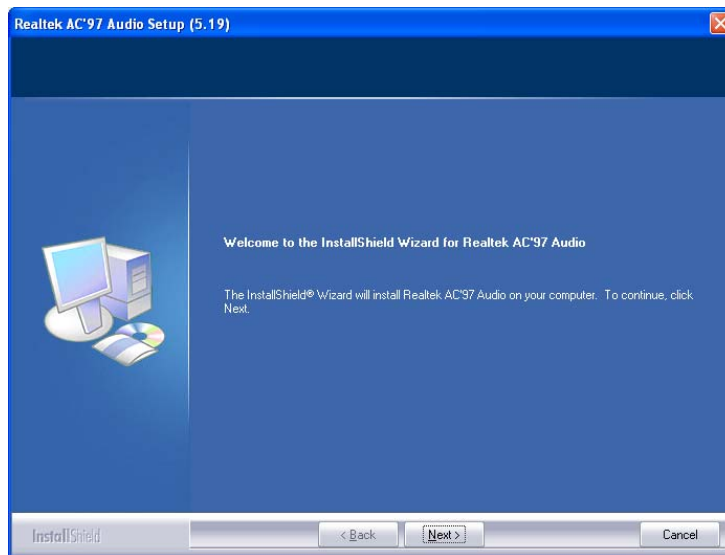

Figure 7-26: AC'97 Driver Installation Welcome Screen
Step 3: The AC'97 Driver Installation screen in Figure 7-26 appears.